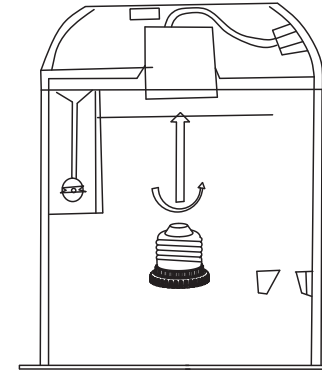

Figure 1
- STEP3:** Screw E26 socket adapter into socket in housing. (Figure 1)